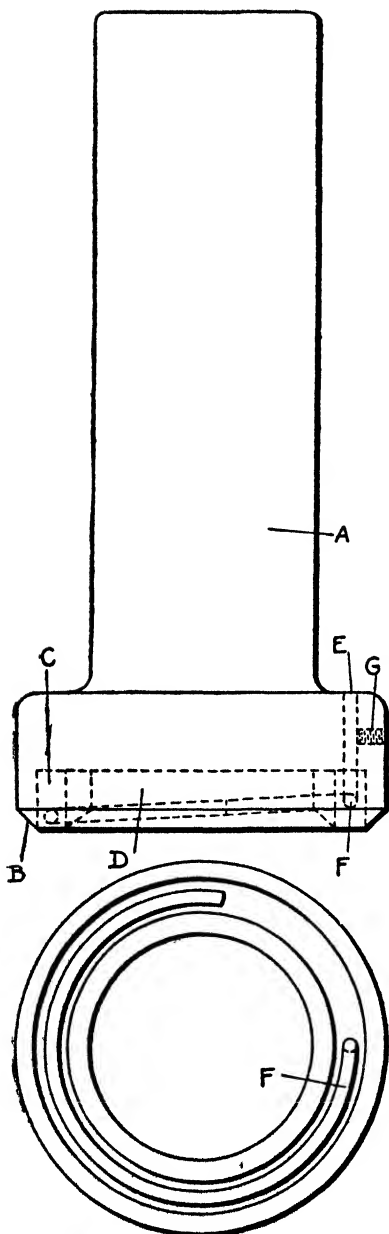

Fig. 29. Gasket Punch
**Small Tools.** As the gaskets used in insulating magneto bearings are sometimes hard to get, a punch to make them is shown in Fig. 29. The handle of the punch *A* may be made of tool steel or of soft steel with a steel cutter. A groove is cut at *C* to form an edge *B*, while the center is turned out at *D*, leaving two cutting edges to form the gasket. By relieving the cutting edges on the outside, it makes a clean-cut gasket. In order to get the finished gaskets out of the punch, an extractor is placed in the slot.